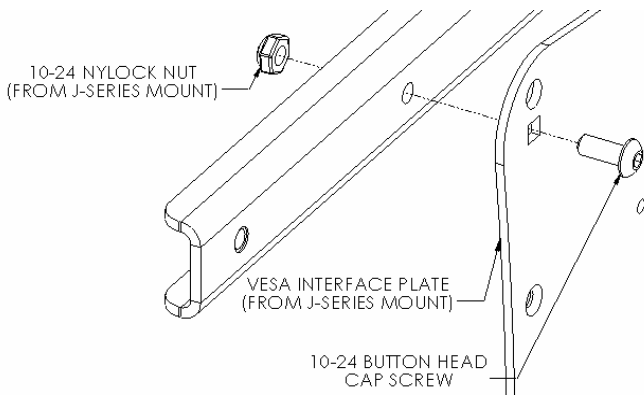
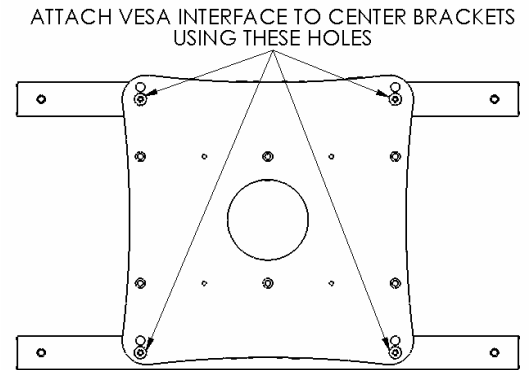

Figure 4
Figure 5
3. **J-Series VESA Interface Installation:** Using the 10-24 button head cap screws along with the 10-24 Nylock nuts (provided with J-Series mount), attach VESA interface from J-Series mount to center brackets (see Figure 4 & Figure 5).